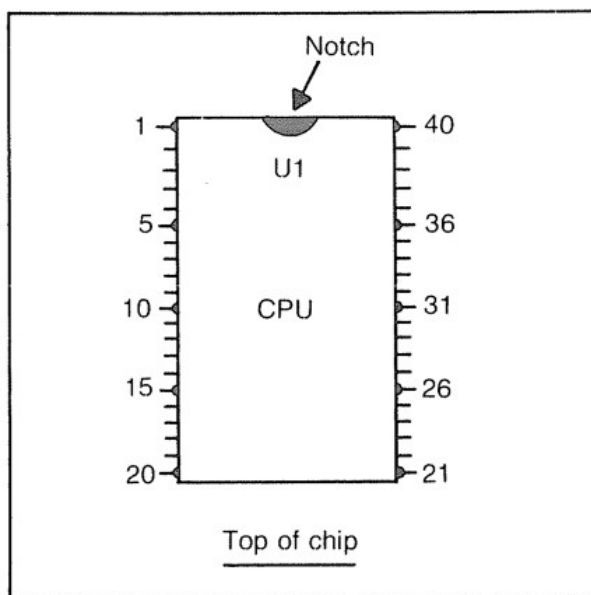

Fig. 3-7. The notch or dot on the end of the chip is the keyway indicator. The pin numbers are counted starting with 1 on the immediate left of the notch.
- ☐ The location of all the chips. If a chip has a dot or notch on one end, mark that on the guide. Pin 1 will be found immediately to the left of the marking (Fig. 3-7).